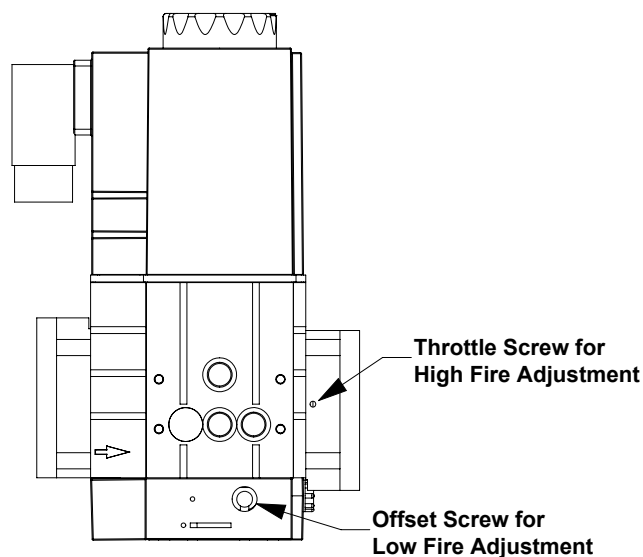
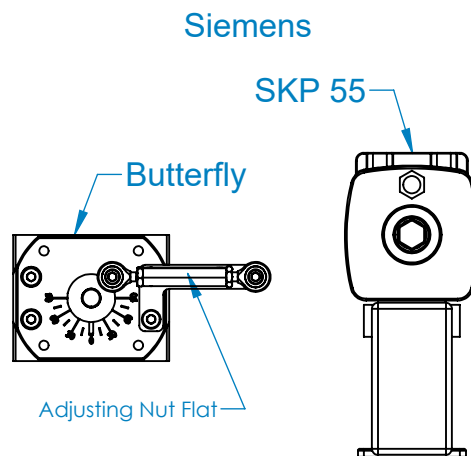

Figure 13: Dungs Valve
Figure 14: Siemens Valves
19. **Note:** For O₂ High Fire adjustment, reference only the combustion system that is on the boiler: See Figure 13 and Figure 14 to determine the boiler's combustion system.
- a. **Dungs** - High Fire O₂ levels are adjusted with the gas shutter valve located on the outlet of the gas valve *(Figure 13)*.
- b. **Siemens** - High Fire O₂ levels are adjusted by adjusting the Butterfly Valve *(Figure 14)*.
If O₂ level starts dropping and quickly goes below 4.7%, either adjust the SKP25 regulator counter-clockwise, a quarter turn at a time, to increase the O₂ or shut the boiler off to adjust. *(The SKP25 looks similar to the SKP55 in Figure 14)*